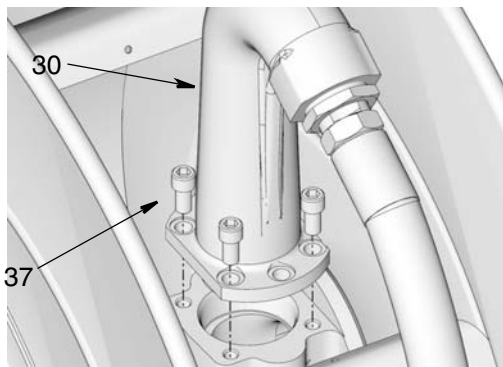

FIG. 13
13. Remove bolts (37) and outlet (30) from spool (FIG. 13).